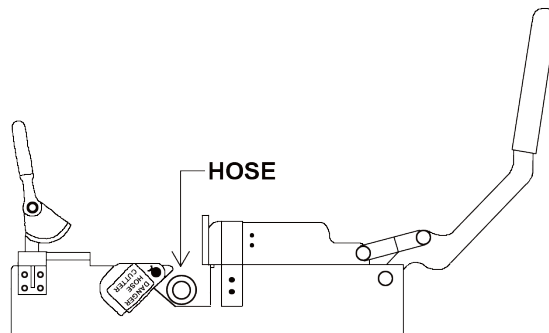

Figure 1
1. Retract the cutter, place the hose in the cutter area. (Fig. 1)